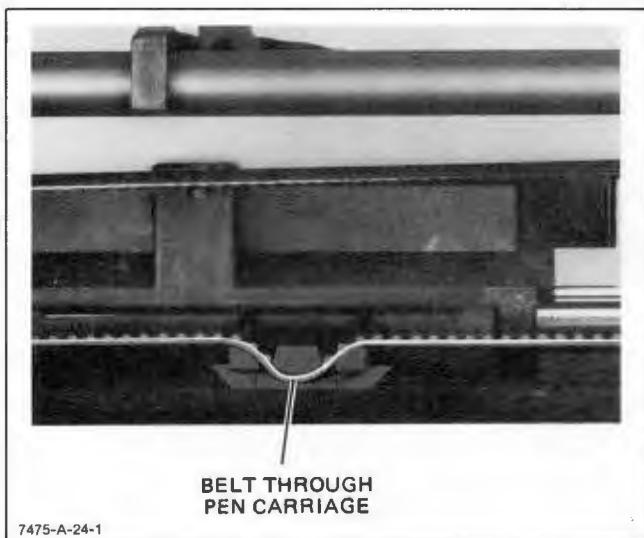

Figure 8-23. Pen Carriage
- To remove the belt, slide it from the pen carriage. See Figure 8-23.
- Slide the belt into the pen carriage. See Figure 8-23.
- Slide the belt from the pen carriage and move the pen carriage to the left. See Figure 8-23.